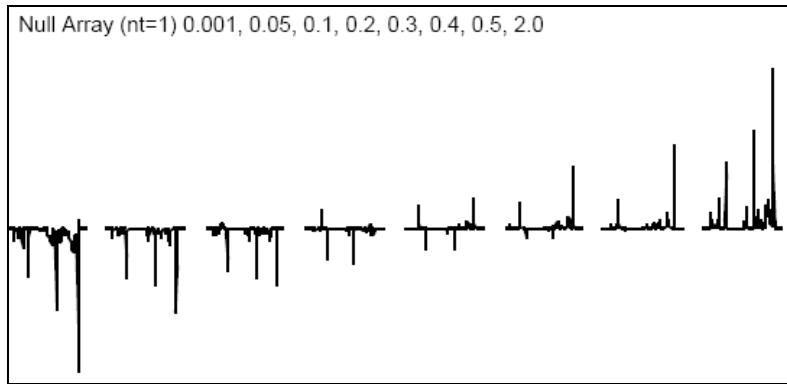

Figure 59 Optimizing the BIRD Nulling Time
8. A value of  $null=0.3$  is recommended. If appropriate, optimize the parameter  $null$ . Set  $nt=1 ss=4$  and enter an array of  $null$  values with at least one very short value (e.g., 0.001) and one very long value (e.g., 2.0). This experiment depends on the relaxation times of the spins involved. Set  $at$  and  $d1$  to the same values being used in the 2D experiment. Run the array and select the value of  $null$  for which either most of the peaks, or the biggest peaks, or the peaks of most interest (choose the criterion), are approximately zero. No one value of  $null$  is correct for all peaks. Figure 59 shows this experiment run on a sample of 28 mg of gramicidin, with  $null$  arrayed over the range of values: 0.001, 0.05, 0.1, 0.2, 0.3, 0.4, 0.5, and 2.0. Examination of the spectra shows how different values of  $null$  may be chosen.